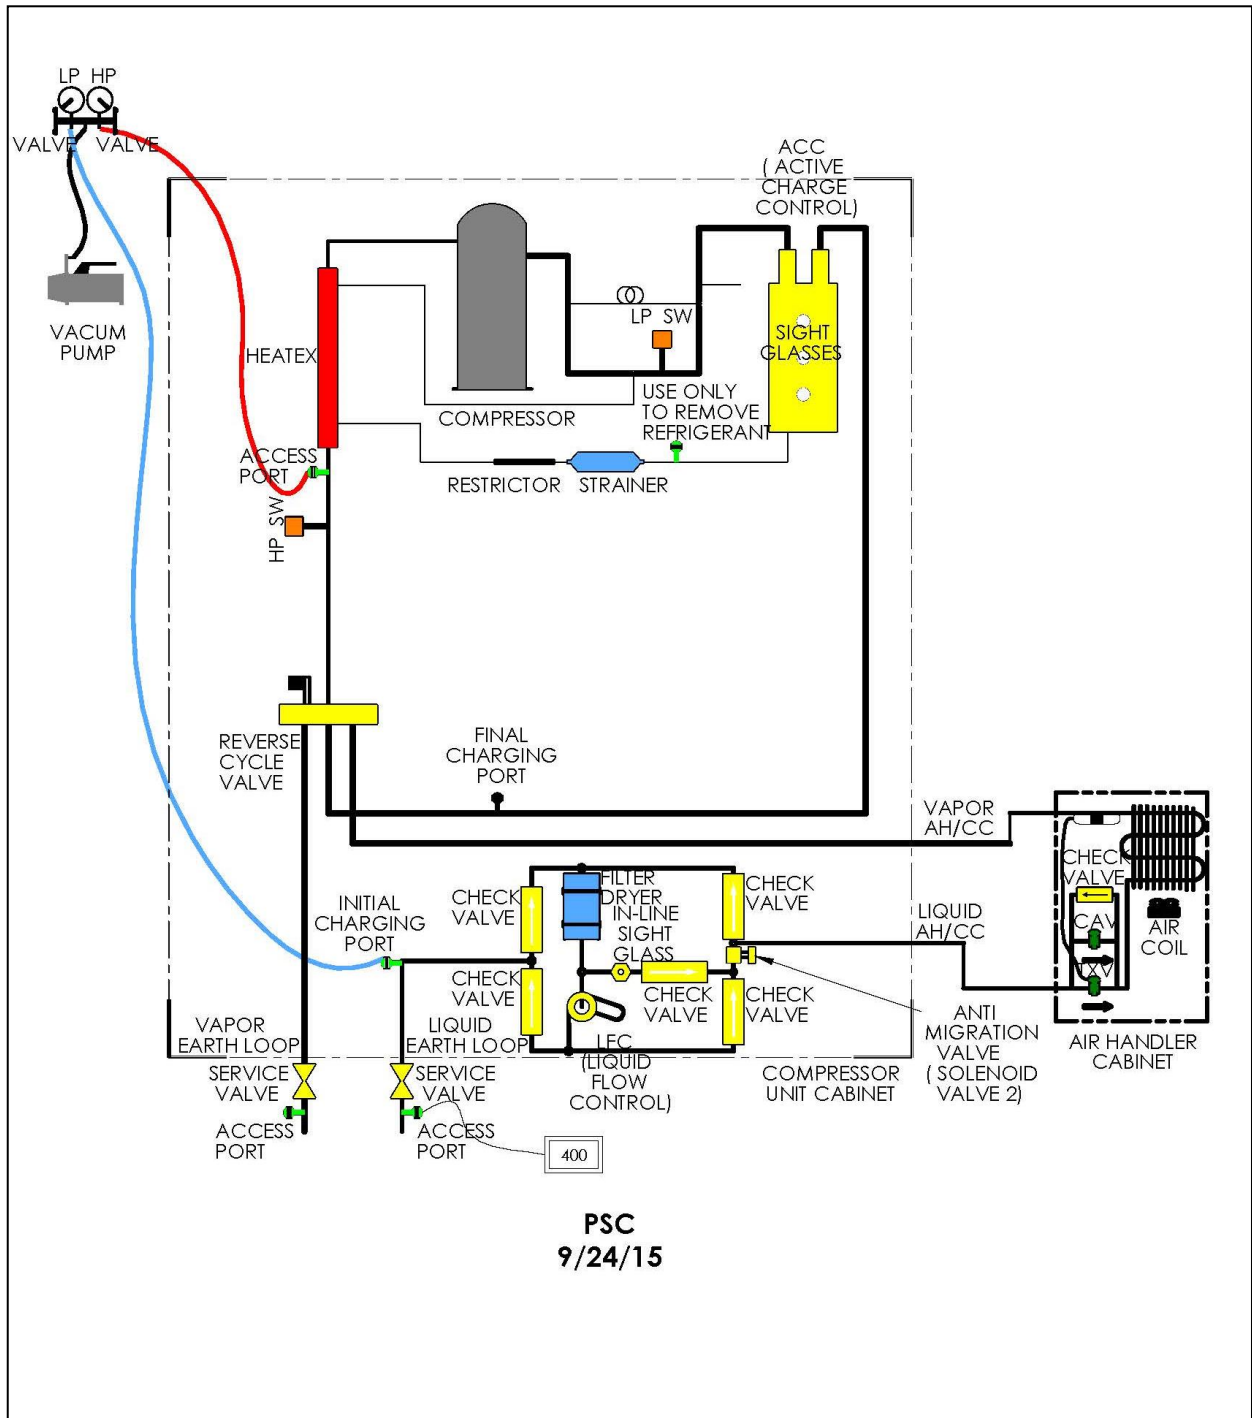

Figure 26. Evacuation of PSC System
Refer to Figure 26 and the following procedure:
2. After venting the pressurized system, a good quality gage manifold and a non-permeable hose set as shown in Figure 26. If possible, use two Schrader core removal tools. Install one on the discharge line access port and the other on the initial charging port. Removal of the Schrader cores will reduce the time to achieve the desired vacuum.
3. Attached a good quality digital vacuum gage with an isolation valve to the liquid line service valve access port as shown in Figure 26.
5. Fully open the LP and HP valves and both service valves. Reference Figure 26.